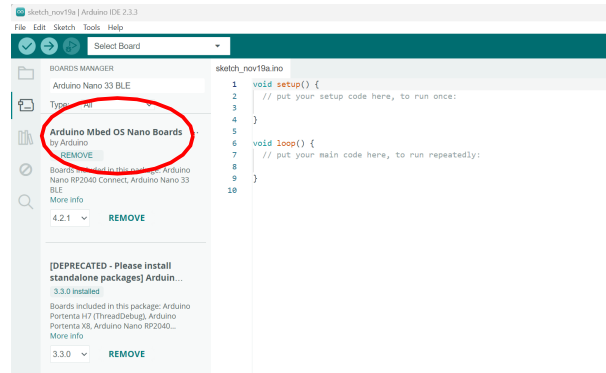

Figure 3.1.: Arduino Mbed OS Nano Boards Installation
4. In the window `Board Manager`, use the search bar to locate the **Arduino Nano 33 BLE Sense** by typing its name as shown in Figure 3.1 .